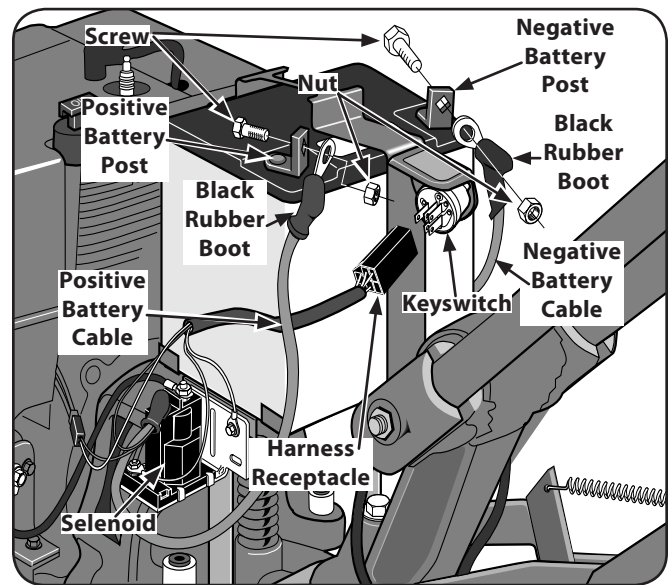

Figure 3-14
1. Before installing the battery and its hold-down clamp, insert the plastic wire harness receptacle into the prongs of the keyswitch located on the hold-down clamp. See Fig. 3-14.
2. Remove the ignition keys from the keyswitch and store them safely away. Do not insert the key into the keyswitch until you complete this section and read the Operation section. See Fig. 3-14.
3. Use a 5/8" long screw and 1/4-20 hex nut to connect the positive (+) battery cable to the positive (+) battery post. Make sure that this is the cable on the left side, with one end attached to the solenoid. See Fig 3-14.
4. Slide the black rubber boot completely over the battery post and cable connector. See Fig. 3-14.
5. Use a 5/8" long screw and 1/4-20 hex nut to connect the negative (-) battery cable to the negative (-) battery post and secure with screw and nut. See Fig. 3-14.
6. Slide the black rubber boot completely over the battery post and cable connector. See Fig. 3-14.